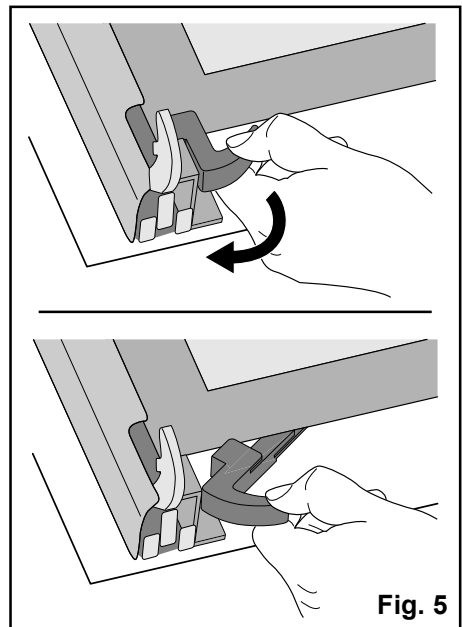

Fig. 5
- 7) release the locking system to remove the internal panes of glass (Fig. 5);